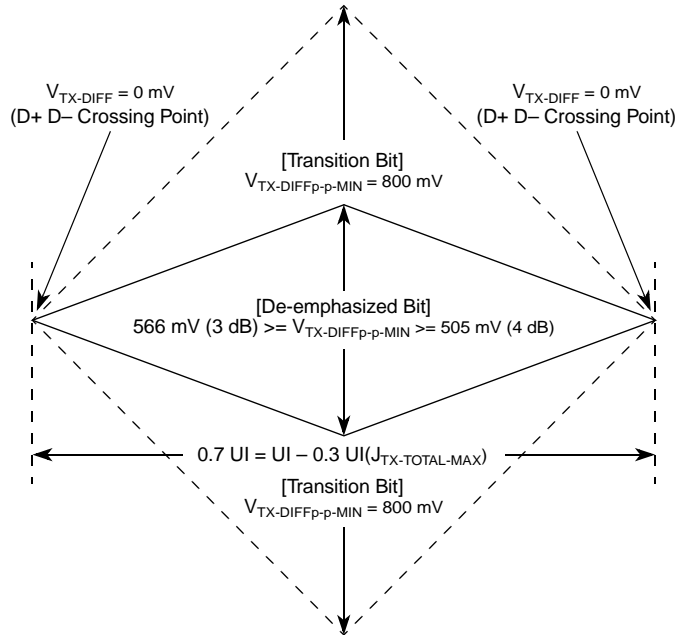
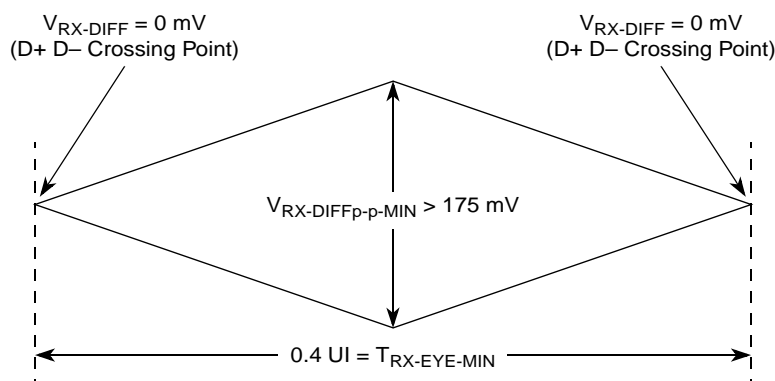
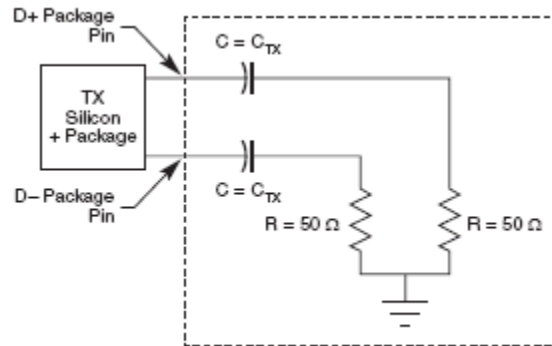

Figure 50. Minimum Transmitter Timing and Voltage Output Compliance Specifications
Figure 51. Minimum Receiver Eye Timing and Voltage Compliance Specification
Figure 52. Compliance Test/Measurement Load
2. Specified at the measurement point into a timing and voltage compliance test load as shown in Figure 52 and measured over any 250 consecutive TX UIs. (Also refer to the transmitter compliance eye diagram shown in Figure 50.)
4. The transmitter input impedance shall result in a differential return loss greater than or equal to 12 dB and a common mode return loss greater than or equal to 6 dB over a frequency range of 50 MHz to 1.25 GHz. This input impedance requirement applies to all valid input levels. The reference impedance for return loss measurements is 50 Ω to ground for both the D+ and D- line (that is, as measured by a vector network analyzer with 50- Ω probes, see Figure 52). Note that the series capacitors, C_{TX} , is optional for the return loss measurement.
5. Measured between 20%–80% at transmitter package pins into a test load as shown in Figure 52 for both V_{TX-D+} and V_{TX-D-} .
The TX eye diagram in Figure 50 is specified using the passive compliance/test measurement load (see Figure 52) in place of any real PCI Express interconnect + RX component. There are two eye diagrams that must be met for the transmitter. Both diagrams must be aligned in time using the jitter median to locate the center of the eye diagram. The different eye diagrams differ in voltage depending on whether it is a transition bit or a de-emphasized bit. The exact reduced voltage level of the de-emphasized bit is always relative to the transition bit.
- Specified at the measurement point and measured over any 250 consecutive UIs. The test load in Figure 52 should be used as the RX device when taking measurements (also refer to the receiver compliance eye diagram shown in Figure 51). If the clocks to the RX and TX are not derived from the same reference clock, the TX UI recovered from 3500 consecutive UI must be used as a reference for the eye diagram.
- The receiver input impedance shall result in a differential return loss greater than or equal to 15 dB with the D+ line biased to 300 mV and the D- line biased to -300 mV and a common mode return loss greater than or equal to 6 dB (no bias required) over a frequency range of 50 MHz to 1.25 GHz. This input impedance requirement applies to all valid input levels. The reference impedance for return loss measurements for is 50Ω to ground for both the D+ and D- line (that is, as measured by a vector network analyzer with $50\text{-}\Omega$ probes, see Figure 52). Note that the series capacitors, C_{TX} , is optional for the return loss measurement.
The RX eye diagram in Figure 51 is specified using the passive compliance/test measurement load (see Figure 52) in place of any real PCI Express RX component. In general, the minimum receiver eye diagram measured with the compliance/test measurement load (see Figure 52) is larger than the minimum receiver eye diagram measured over a range of systems at the input receiver of any real PCI Express component. The degraded eye diagram at the input Receiver is due to traces internal to the package as well as silicon parasitic characteristics which cause the real PCI Express component to vary in impedance from the compliance/test measurement load. The input receiver eye diagram is implementation specific and is not specified. RX component designer should provide additional margin to adequately compensate for the degraded minimum Receiver eye diagram (shown in Figure 51) expected at the input receiver based on an adequate combination of system simulations and the return loss measured looking into the RX package and silicon. The RX eye diagram must be aligned in time using the jitter median to locate the center of the eye diagram.
The reference impedance for return loss measurements is 50 Ω to ground for both the D+ and D- line (that is, as measured by a Vector Network Analyzer with 50 Ω probes—see Figure 52). Note that the series capacitors, $C_{PEACCTX}$, are optional for the return loss measurement.
The AC timing and voltage parameters must be verified at the measurement point, as specified within 0.2 inches of the package pins, into a test/measurement load shown in Figure 52.